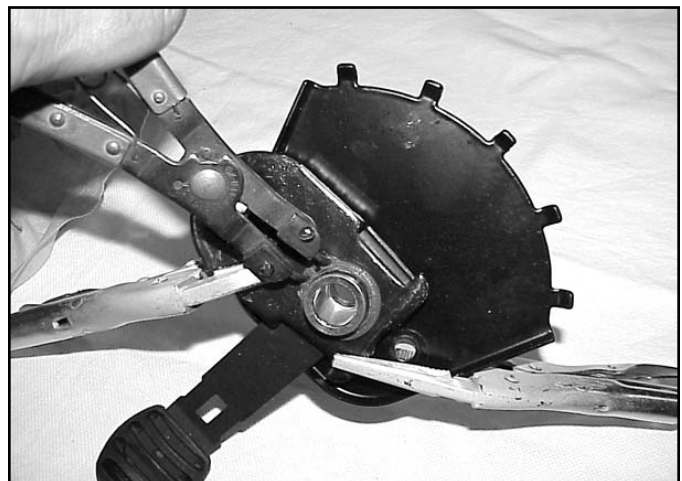

Fig 048
11. To disassemble the pivot arm assembly, compress the components with two clamps or locking pliers (Fig. 048).